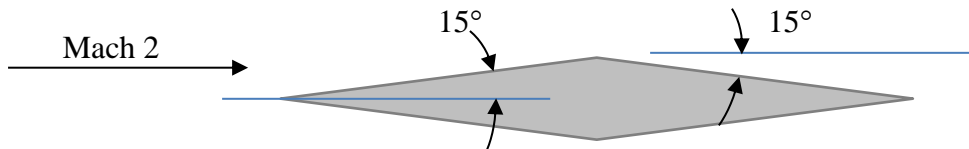

Figure Q1
1. A high-speed wing travels at Mach 2 in air at temperature 260 K, as indicated in Figure Q1. Using the oblique shock chart provided, determine the most likely Mach number and temperature after the shock, stating the reason for any decisions you make. You may find the normal shock data provided for two ranges of M_1 , the ingoing Mach number, related to M_2 , the outgoing Mach number, and temperature ratio T_2/T_1 across the shock useful. [6]
2. The flow over the wing in Figure Q1 continues until it reaches the point where the wing shape changes at mid section. Using the Prandtl-Meyer expansion chart provided, and initial Mach number 1.471, find the Mach number of the flow after the flow expansion at mid section. [3]